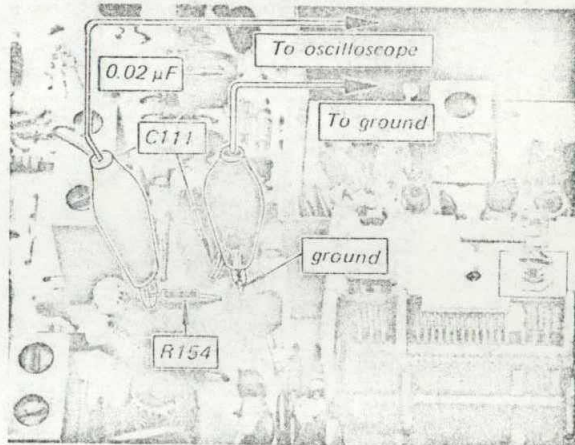

Fig. 3-3. Fm discriminator output connection
1. Connect the input cable of the oscilloscope with alligator clips to connection point of R154 and C116, and ground on the fm (a-m) front-end/i-f amp/MPX board and solder a 0.02 μF capacitor across these clips as shown in Fig. 3-3.